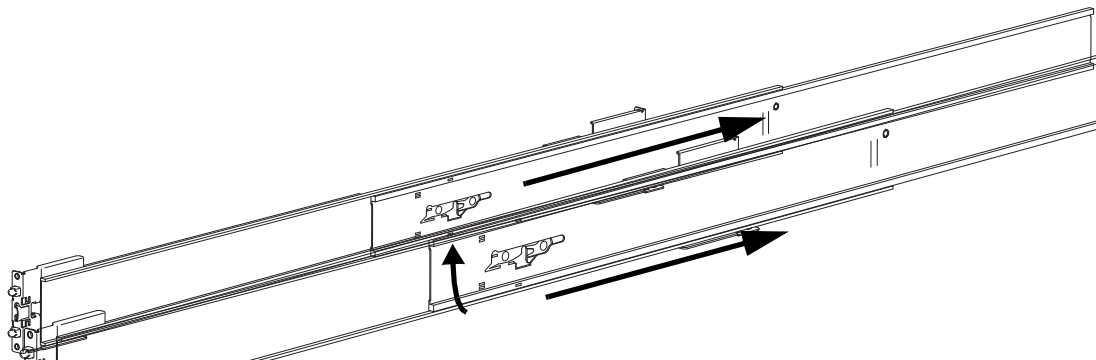

Figure 29 Rotating the lever on the actuator switch and sliding back the mid rail
5. Rotate actuator switch lever in the direction marked by the arrow (Figure 29), and slide the mid rail back to its original position.